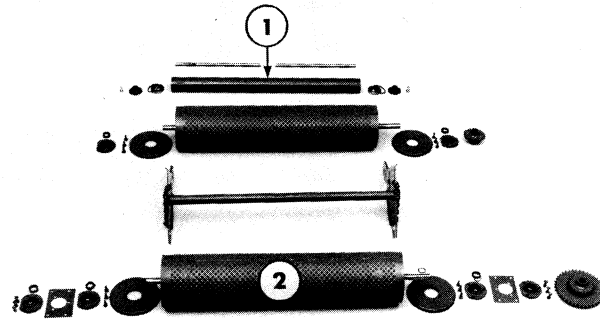

Figure 9-59
15. Figure 9-59 shows the parts for the sledge frame assembly displayed.
4. Assemble the pivot roll, 2, Figure 9-59, and install it back in the baler.